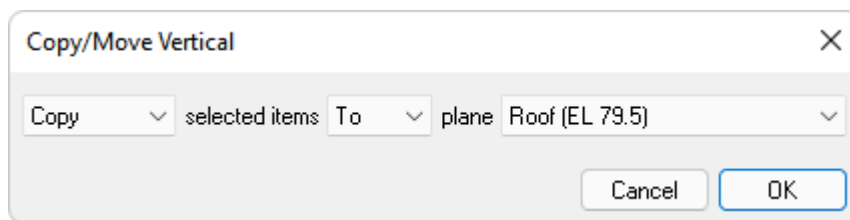

FIGURE 9-139
- Go to *Modify* → *Copy/Move* and click on the **Vertical**  icon. This will open up the *Copy - Move* window as shown in **FIGURE 9-139**.